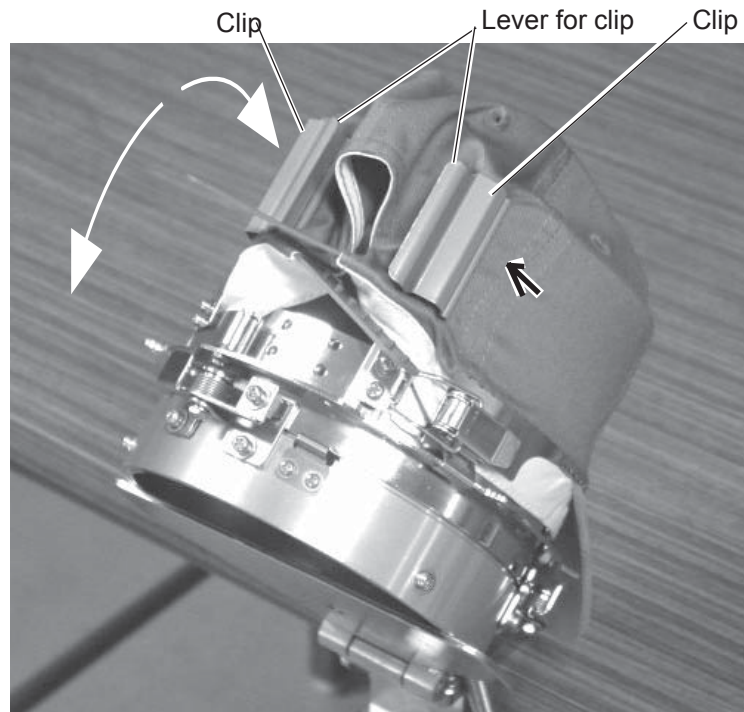

Fig. 4
6. As shown in Fig. 4, tip the cap stretcher forward.